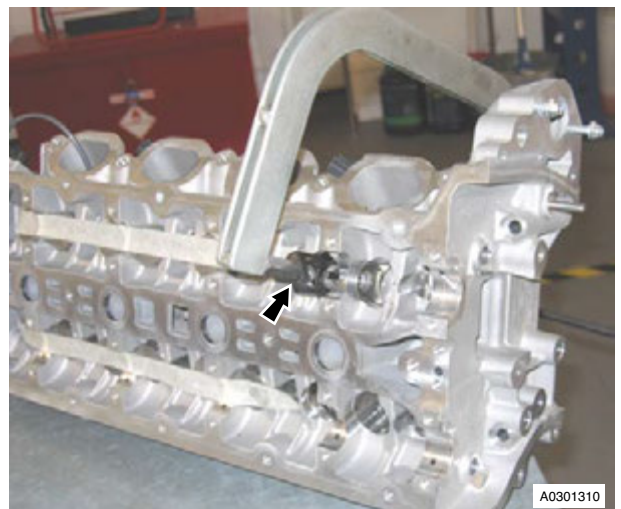

Figure 1
8. Position valve spring compressor, compress valve spring (see Figure 1).